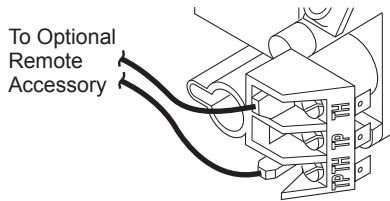

Figure 38 - Control Valve Terminals
1. Open bottom louver (V)(TC36 series) or remove screen door assembly (V)(VCC36 series) and locate switch bracket on the right.
4. Connect wires from receiver to TH and TPTH to control valve (see Figure 38).